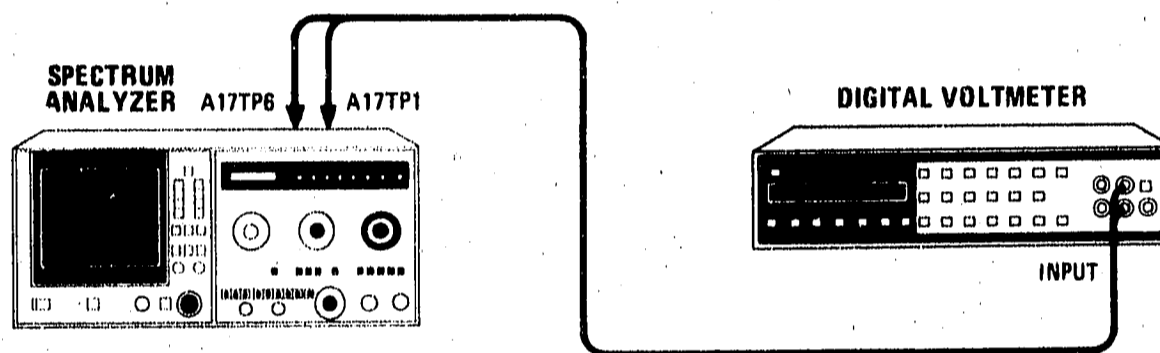

Figure 5-29. +10V Reference and Digital Readout Adjustment Test Setup
2. Reconnect power cord, set LINE switch ON, and connect equipment as shown in Figure 5-29. Set all spectrum analyzer controls to normal (green) settings, and FREQUENCY BAND GHz to .01 – 1.8.